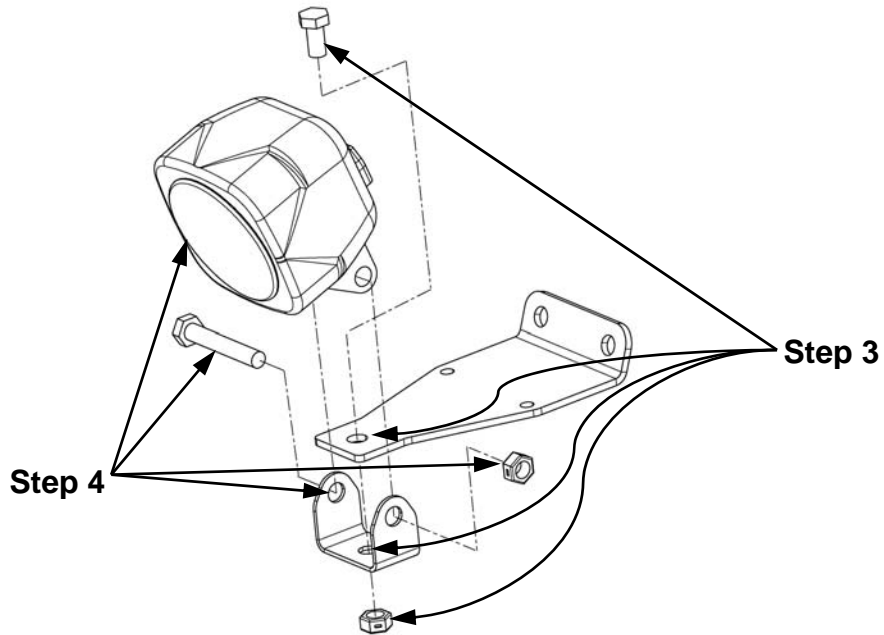

Figure 2
3. Secure light mount bracket (Item 2) to front mount bracket (Item 1) using 5/16 x 5/8" long bolt (Item 12) and a 5/16" center lock nut (Item 11) (**Figure 2**).
4. Secure light to light mount bracket (Item 2) using (2) 5/16 x 2" hex head bolts (Item 10) and a 5/16" center lock nut (Item 11) (**Figure 2**).